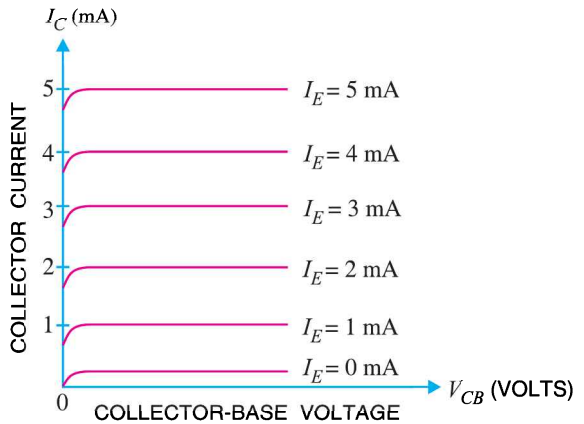

Fig. 8.15
2. Output characteristic. It is the curve between collector current I_C and collector-base voltage V_{CB} at constant emitter current I_E . Generally, collector current is taken along y-axis and collector-base voltage along x-axis. Fig. 8.15 shows the output characteristics of a typical transistor in *CB* arrangement.